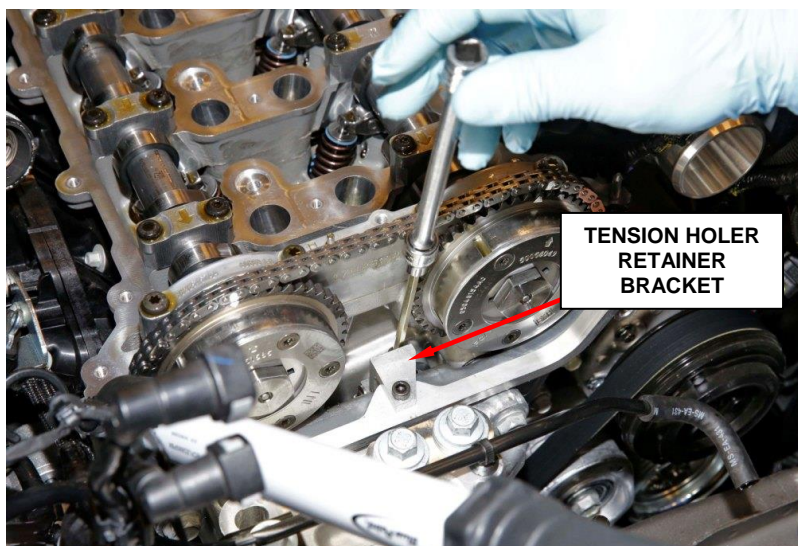

Figure 21 – Chain Tension Holder Bracket
54. Install the chain tensioner holder retainer bracket to the timing cover with a 6 mm x 20 mm bolt tightened to 10 N·m (89 In. Lbs.) (Figure 21).
55. Using an Allen key, rotate the retainer bracket tension bolt down until it just touches the top of the holder. **DO NOT** apply any additional torque to the retainer bracket tension bolt (Figure 21).